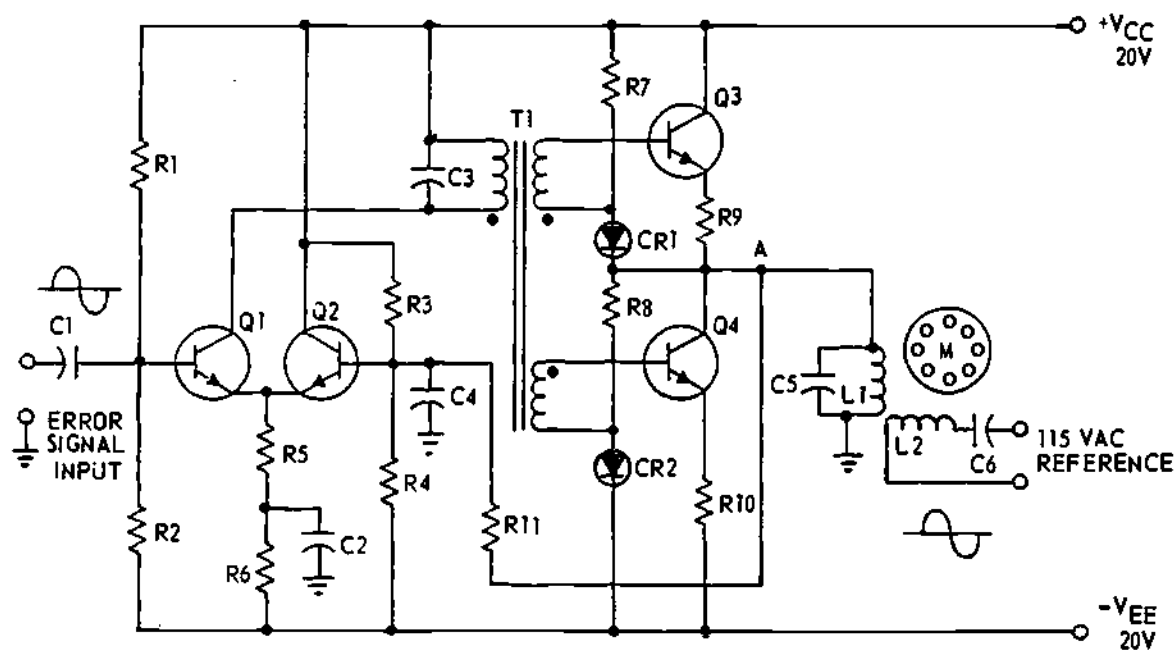

Figure 9-22. Servo Amplifier
9-47. The servomotor mechanically drives the output shaft which is mechanically coupled to the rotor of the control transformer. When the rotors of the synchro generator and control transformer are at the same angle, the error voltage will return to zero. With no input to the servoamplifier, the servomotor will stop turning the output shaft. When this condition exists, the system is aligned. Figure 9-22 illustrates a transistorized servoamplifier circuit. In this particular system, the two-phase induction motor (M) is the servomotor. The speed and direction of the motor rotation vary as the phase and magnitude of the error signal input changes. The error voltage is amplified by transistors Q1, Q3 and Q4 and is applied to the control winding (L1) of the servomotor (M). Coil L2 of the servomotor is connected to the 115-VAC input reference through capacitor C6 to obtain a 90° phase difference between the voltages applied to the reference (L2) and control (L1) windings in the servomotor. If there is no error voltage, the motor remains stationary since only one phase of the voltage is being applied to the motor and no rotating magnetic field exists. If there is an